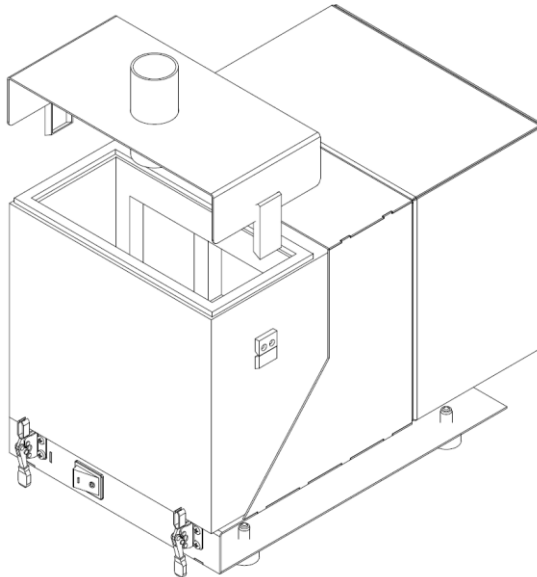

Fig. 130 Prefilter
5. Remove the top filter cover and put it aside (Fig. 130).
8. Replace the top cover and close the clasps securing the filter cover (Fig.130).